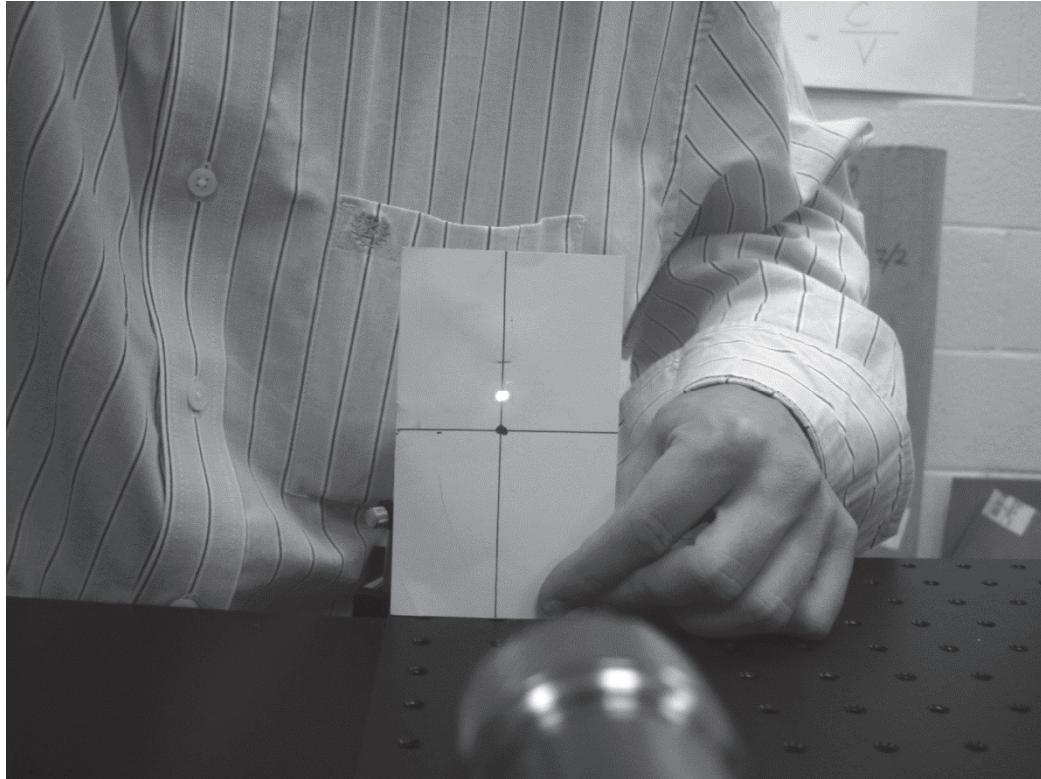

Figure 34 – Index Card Cross Target Set-up
4. Mount a 1.5" post holder onto a mounting base (LI-11). Mount the dual filter holder (LI-9) onto a 1.5" post. Insert an index card (LI-10) into the filter holder. Insert the 1.5" post, with dual filter holder and index card, into the post holder mounted on the mounting base nearest the laser. Draw a cross (+) on the index card centered on the row of holes over which the laser beam travels. (Refer to Figure 34.) Adjust the height of the index card so that the beam spot is centered on the cross.